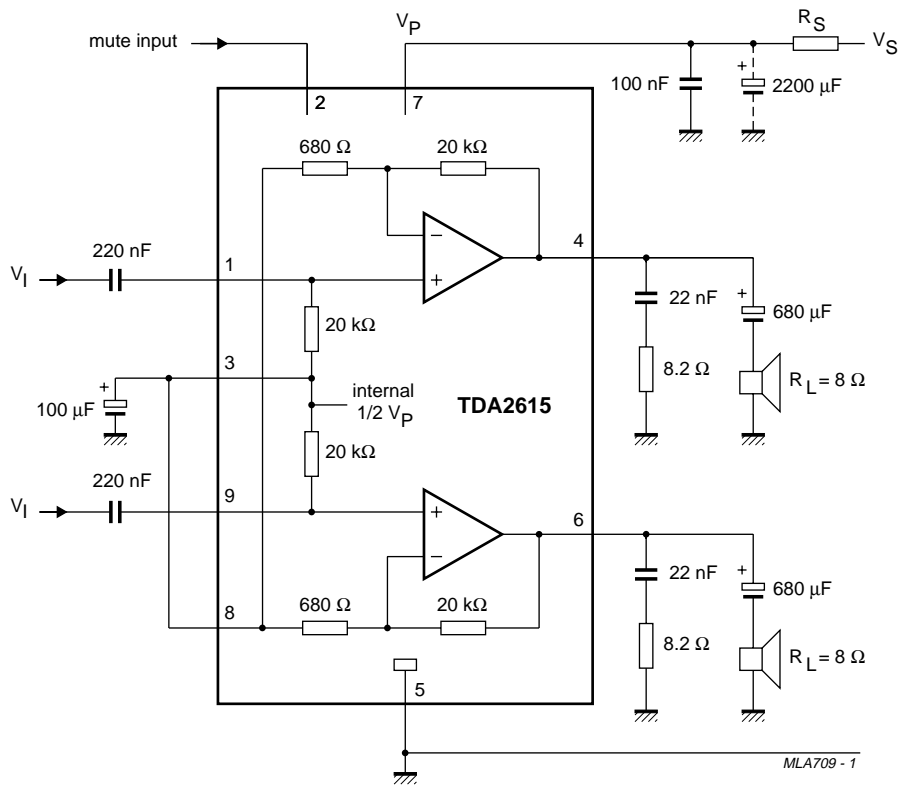

Fig.5 Test and application circuit with asymmetrical power supply.
- $V_P = 24 \text{ V}$ ;  $R_L = 8 \Omega$ ;  $T_{\text{amb}} = 25 \text{ }^\circ\text{C}$ ;  $f_i = 1 \text{ kHz}$ ; asymmetrical power supply  $I_{\text{MUTE}} < 30 \mu\text{A}$  (see Fig.5).